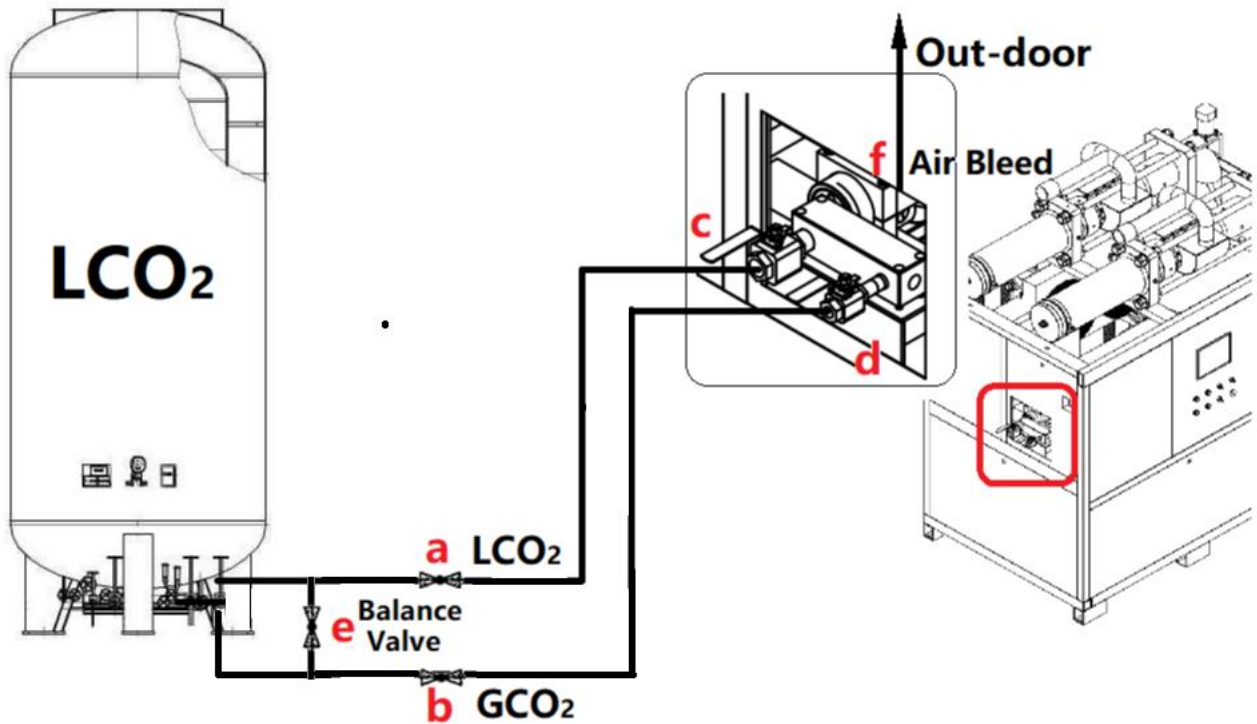

Figure 5-1 Pipeline Connection Diagram
There are three valves (Figure 5.1, #c #d #f) on the side of the machine. All valves should be OFF.
- OPEN the **VAPOR** valve (Figure 5.1, # b) installed in plant piping system to serve the equipment.
- In the machine, turn the **VAPOR & LIQUID** valves (Figure 5.1, #c #d) to the ON position. The pressure gauge is displayed.
- Open **Air BLEED** valve (Figure 5.1, #f) to release the air, and then turn the **AIR BLEED & LIQUID** valves (Figure 5.1, #f #c) OFF.
- OPEN the **Balance valve** (Figure 5.1, #e) installed in plant piping system for 3-5sec to balance the pressure, then turn the **Balance valve** (Figure 5.1, #e) OFF.
- OPEN the **Liquid valve** (Figure 5.1, #a) installed in plant piping system to serve the equipment.
Up to now, refer to Figure 5.1, check the status of the valves.